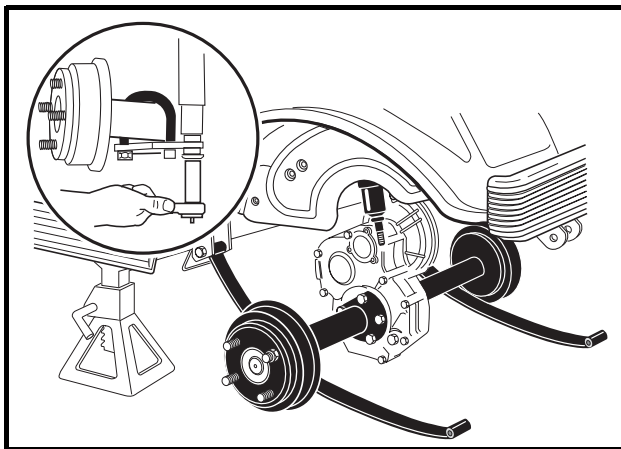

Figure 16b-3 Lower Axle
9. Remove the four bolts that mount the motor to the transaxle (**Figure 16b-24, Page 16b-15**). See following **CAUTION**.